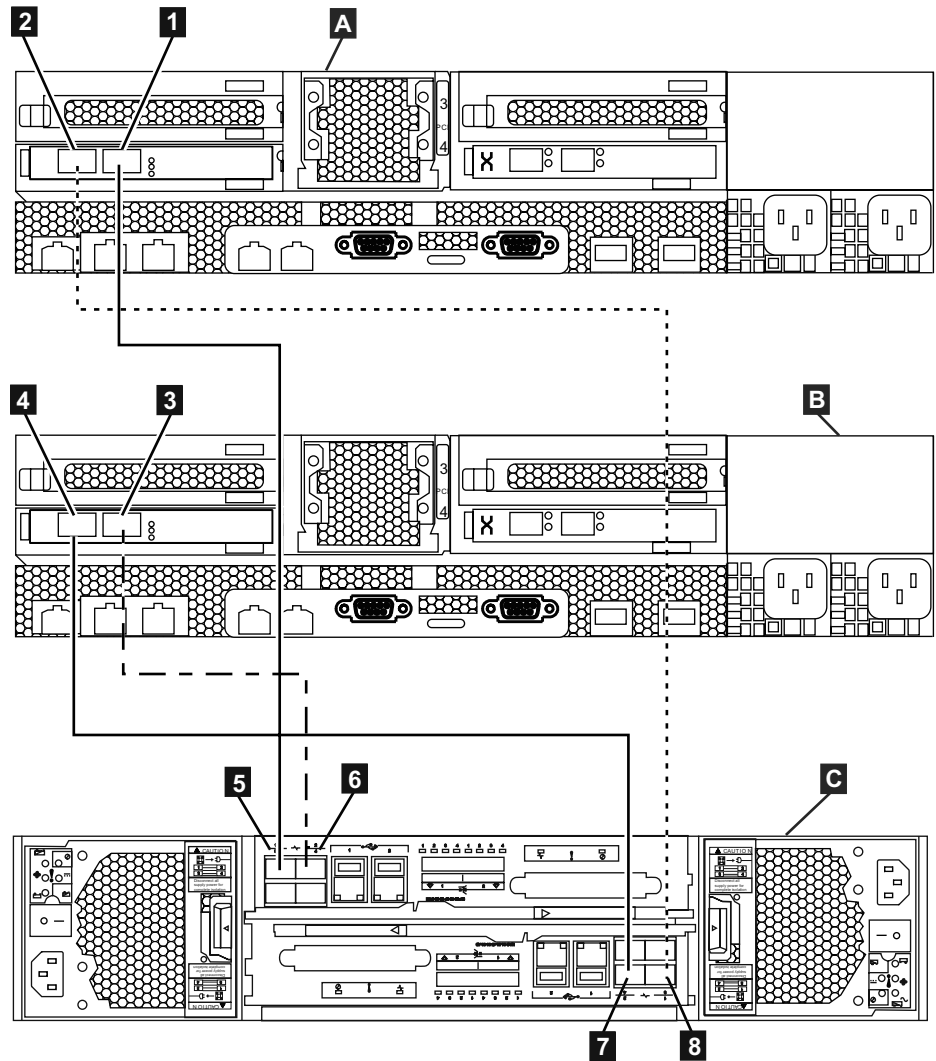

Figure 40. Diagram showing how to connect the file modules to the control enclosure using Fibre Channel cables. Refer to previous table.
- Before continuing, make sure that you have connected the Fibre Channel cabling as shown in Figure 40 on page 53 to ensure proper redundancy. Incorrect cabling may result in a loss of service during system maintenance procedures.